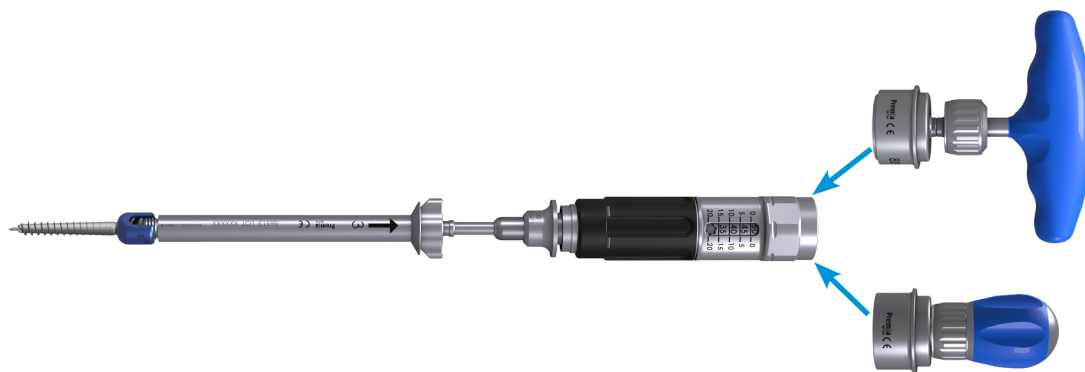

Figure 51: Screw Insertion Using the Dynamic K-Wire Adaptor
- When using the Dynamic K-Wire Adaptor (**Figure 51**), it is possible to advance and retract the K-Wire independently from the screw within bone.